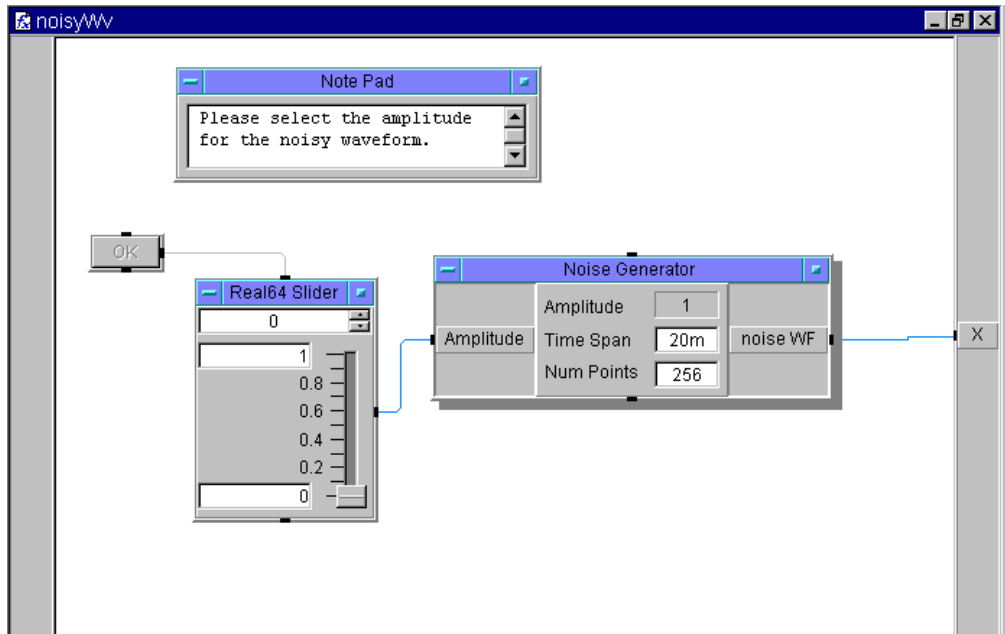

Figure 242 The noisyWv UserFunction (Detail)
- 1 Create the UserFunction called noisyWv, as shown in Figure 242 in the Detail view.